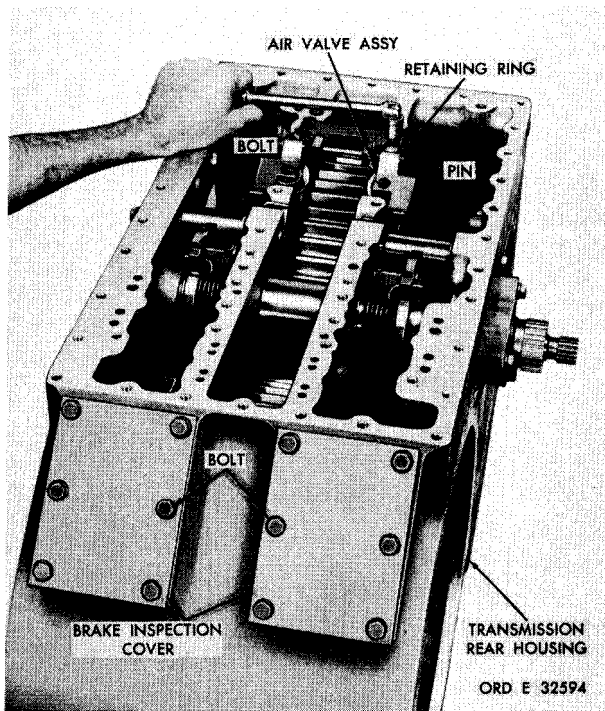

Figure 175. Removing transmission brake air valve assembly
a. Using a 9/16-inch wrench, remove two self-locking bolts that retain brake air valve assembly (fig. 175). Remove the valve assembly.
b. Remove the retaining ring on the air valve assembly (fig. 175 ).
c. Remove the pin, and disassemble the air valve assembly (fig. 175).
d. Using a 9/16-inch wrench, remove 12 cap screws and lock washers retaining brake inspection covers. Remove the two covers with gaskets (fig. 175).